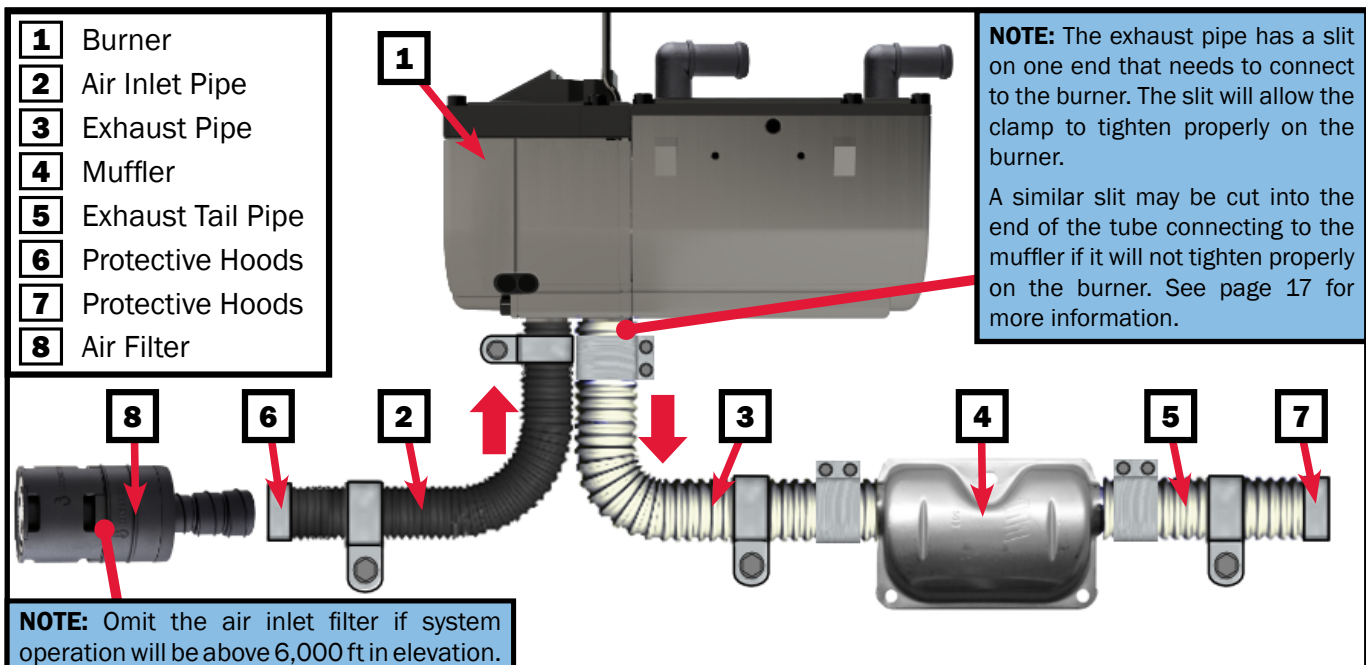

Figure 34
- Reference the diagram in Figure 34.